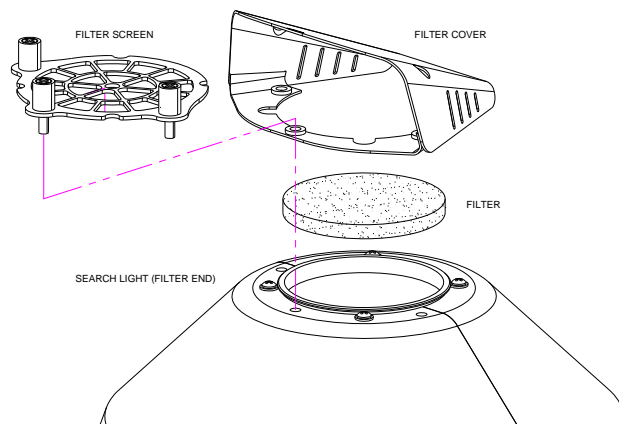

Figure 38 Fan Filter Replacement
- Unscrew the three panel fasteners on the filter screen (Figure 38).